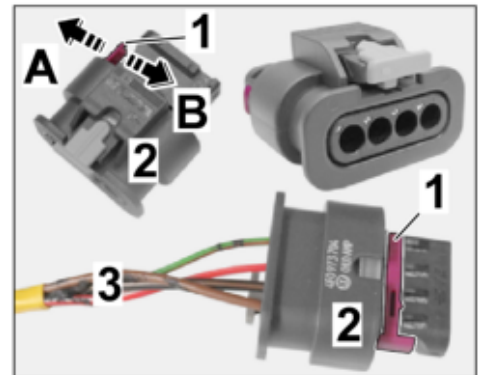

Figure 37
- 3.4.1 Release the socket housing (4-pin, see parts list). \Rightarrow Figure 37 -A-
- 3.4.3 Lock the socket housing (4-pin, see parts list). ⇒ *Figure 37 -B-*